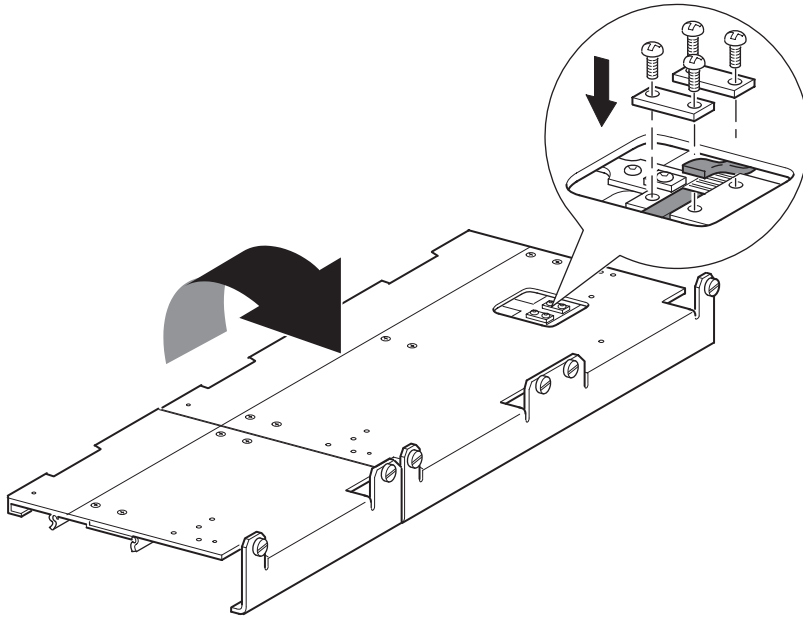

Figure 2-16. Timing belt at the belt block
8. Place the timing belt ends on the belt block (see Figure 2-16).
9. Secure the timing belt with the two belt brackets and four retaining screws. If the belt was sized properly, a small space between the belt ends should be visible (see Figure 2-16).